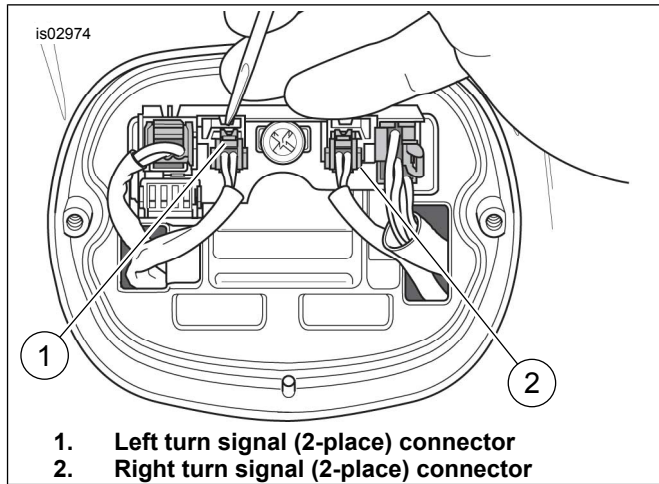

Figure 2. Disconnect Turn Signals (2000 and later FXST)
- b. See Figure 2. Disconnect left (1) and right (2) turn signal (2-Place) connectors from sockets. Refer to Appendix covering Amp Electrical Connectors and remove left and right signal wires from connectors. Save connectors for installation.